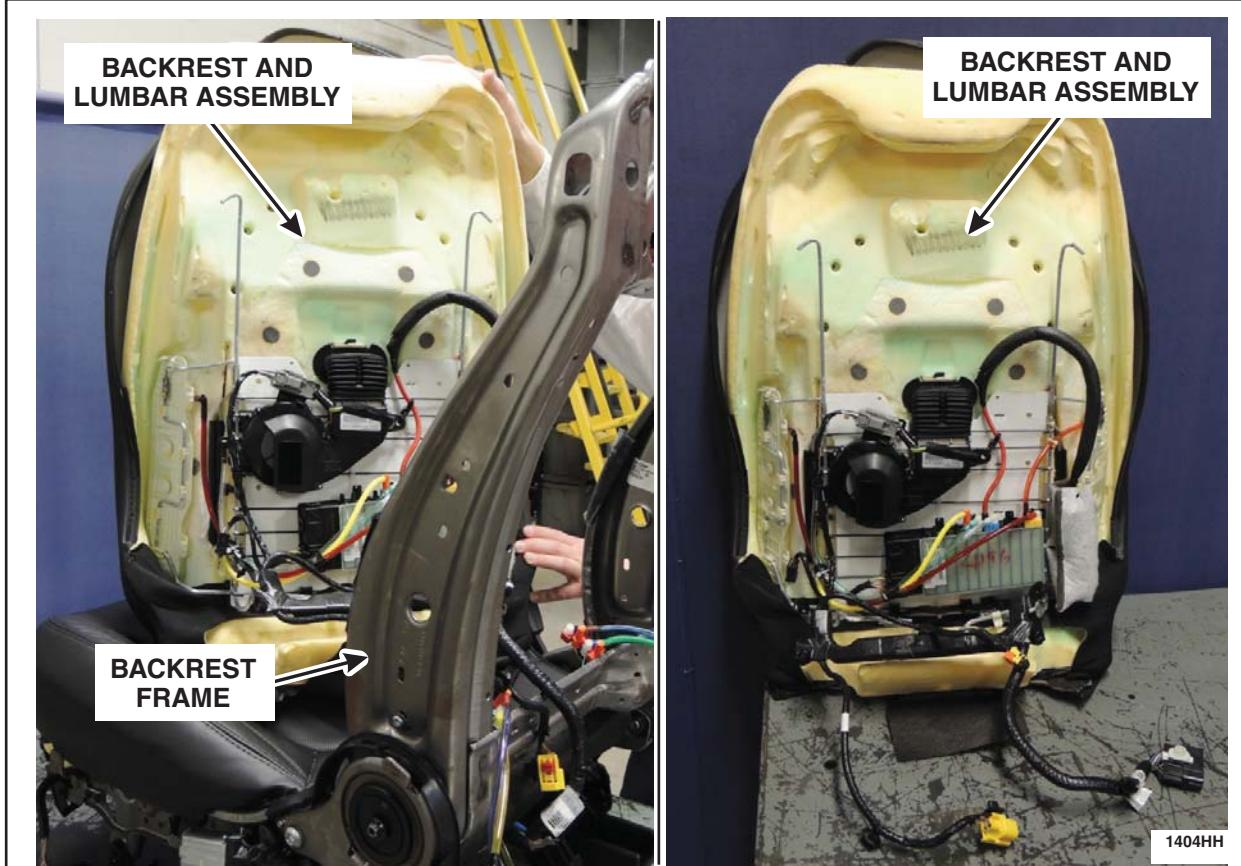

FIGURE 13
16. Position the backrest and lumbar assembly away from backrest frame. See Figure 13.